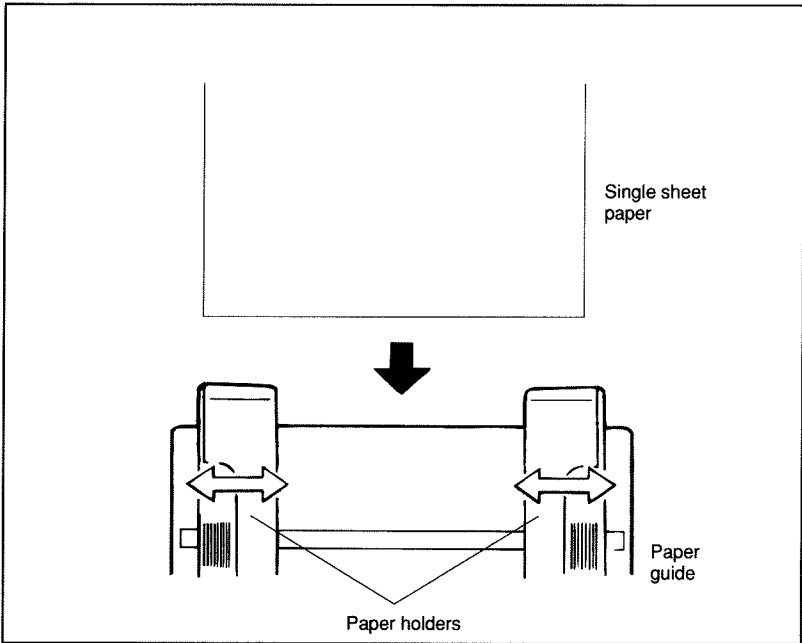

Figure 3-3. Adjusting the paper holders.
4. Insert a piece of paper head in, face down, between the paper holders (as you would load paper in a typewriter). See Figure 3-3. Push the paper down gently to be sure it is all the way in.